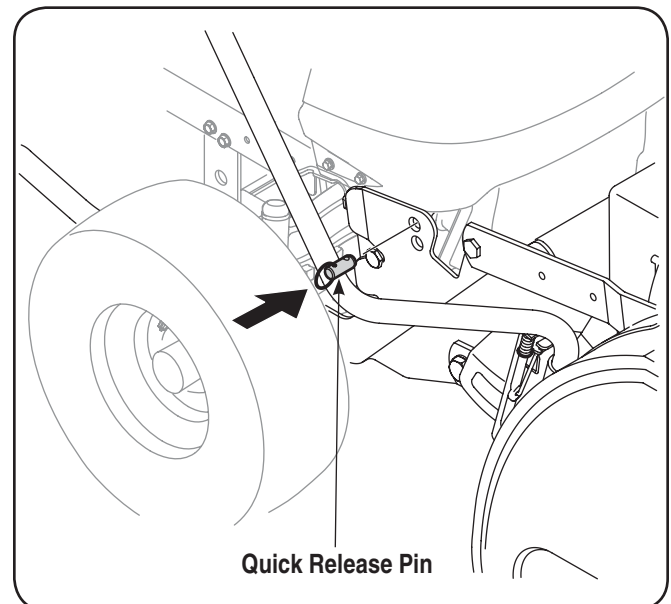

Figure 3-10
5. Maneuver the auger housing until the mounting holes line up. Insert the two quick release pins from your hardware pack on both sides. See Fig. 3-10.